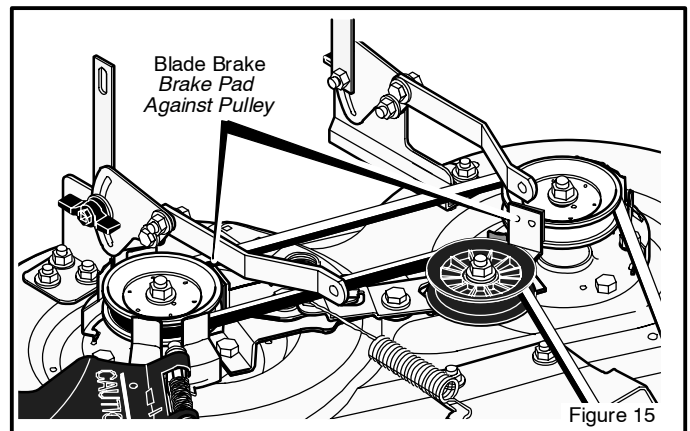

Figure 15
8. Move the **blade rotation control** to the **DISENGAGE position**. Stop the engine. Disconnect the wire from the spark plug. Check the operation of the **blade brake**. Rotate the pulleys with your hand. Make sure the **brake pads** are pressed tightly against the pulleys (Figure 15).